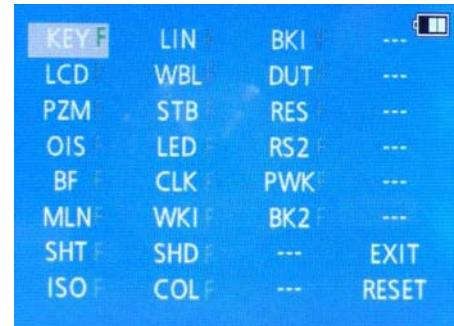

Fig.3-2
1. After pressing the “DISP”, the LCD monitor displays the Flag status screen (Refer to Fig.3-2)